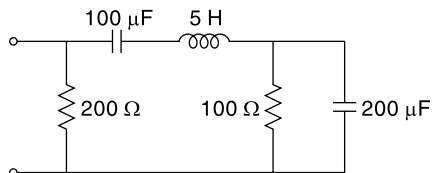

Fig. 14.90
14.101 Find the equivalent impedance of the network shown in Fig. 14.90 when the frequency is 10 rad/s.